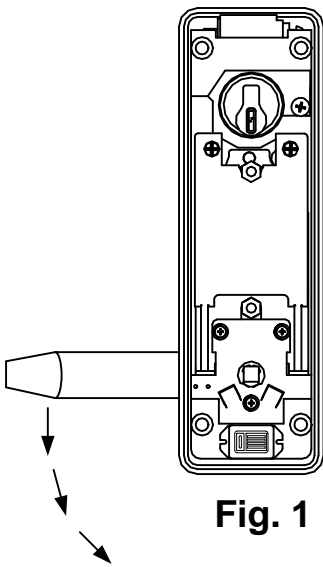

Fig. 1
1. Turn lever handle to the right or left direction to meet door handing (Fig. 1).